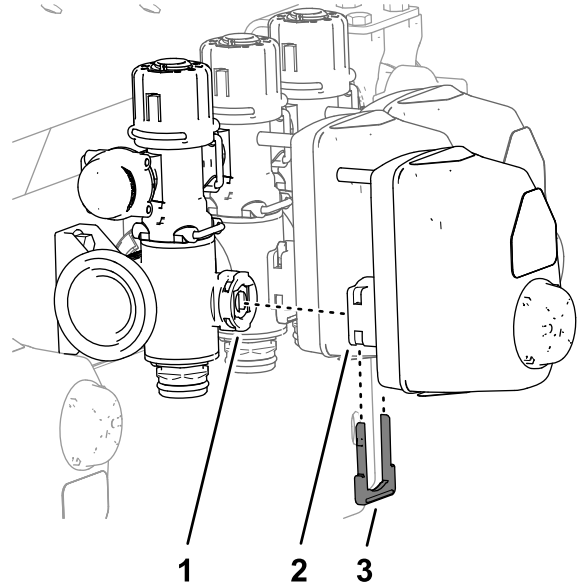
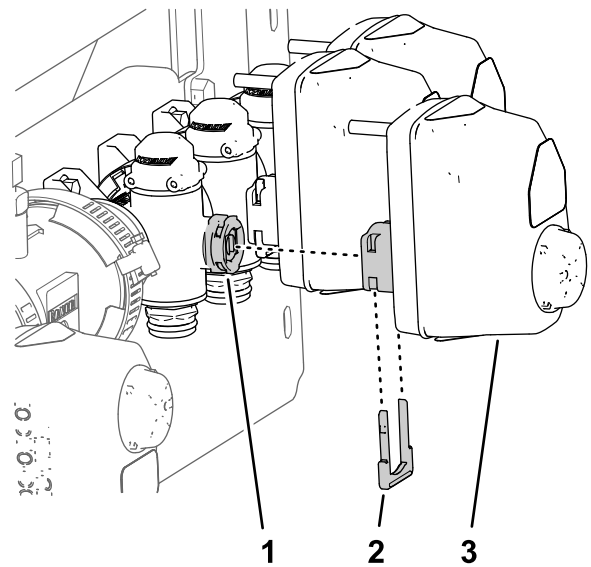

Figure 39
Figure 42
- Align the coupler of the previously removed section valve actuator (Figure 39) with the stem port of the manifold valve.
- Secure the section valve actuator to the manifold valve with the previously removed retainer (Figure 39) as shown in Figure 42.